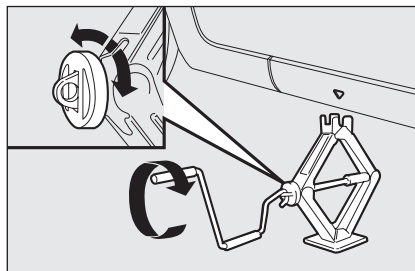
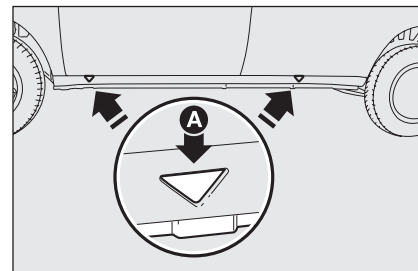

fig. 8
fig. 9
- ☐ Start expanding the jack so that it partially opens **fig. 8**. Then, position it under the vehicle near the reference grooves **A**-fig. 9 close to the wheel to be replaced.